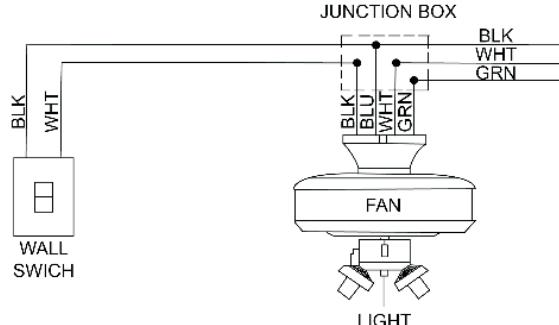

FIG. 20
- Illustrations in figures 20 and 21 show optional wiring diagrams that you can use.